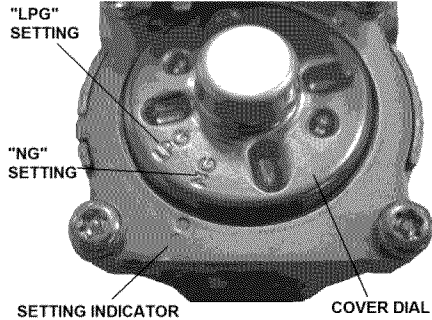

Figure 5
16. Observe the cover dial settings indicated as NG (Natural gas) and LPG (Liquefied Propane gas) along with the gas type indicator. See *Figure 5*.